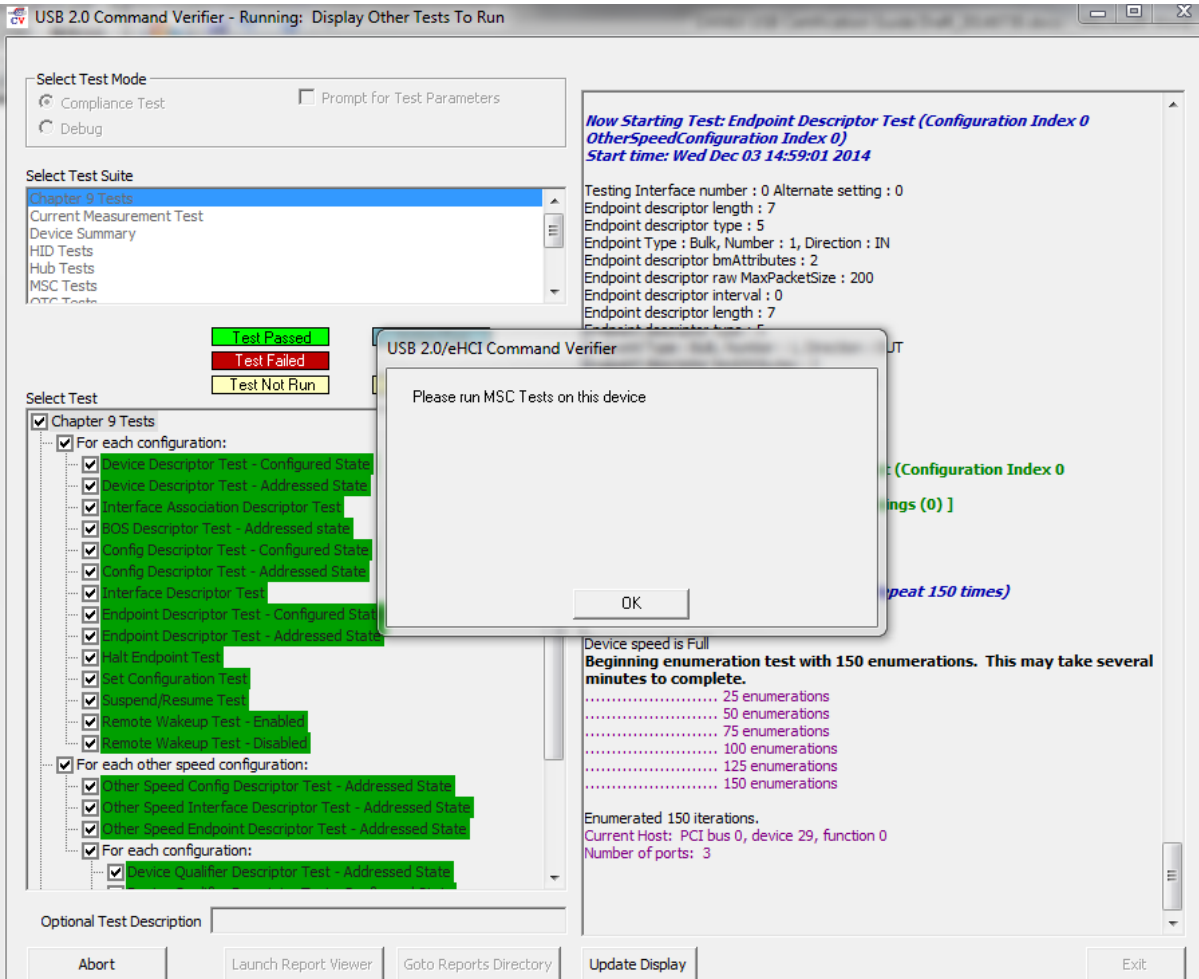

Figure 83. Prompt box after USB20CV Chapter 9 Tests
5. After Chapter 9 tests are finished, the USB20CV pop out window shows which other tests need to be done, as shown in Figure 83. The i.MX 6 series acts as a mass storage in Device Mode. If the pop-out box prompts you to do more tests than just the MSC you must check the configuration of the supported device class.
Appropriate class tests¹ (HID, HUB, MSC, UVC, PHDC) should be done according to the prompt of Chapter 9 tests, as shown in Figure 83.